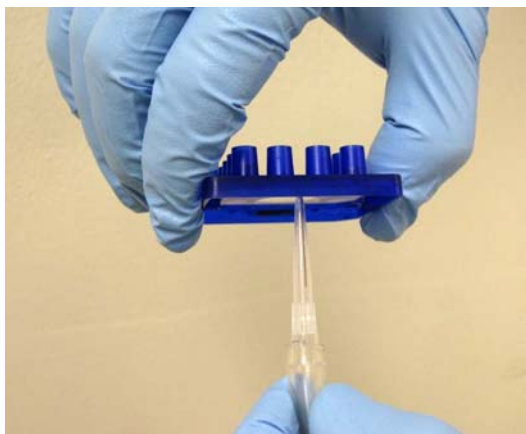

Figure 15. Removing an air bubble or clog by suctioning the sipper with a vacuum line
- 18 If air bubbles are not dislodged after a reprime, apply a vacuum to the sipper. Fill all active wells with 100 μ L of RNA Chip Storage Buffer, then suction the sipper with a vacuum line as shown in Figure 15 until droplets of fluid flow out from the sipper. When suctioning the sipper, be careful not to bend or break the sipper. To facilitate this, cut the end of the pipette tip attached to the vacuum line to widen the mouth.